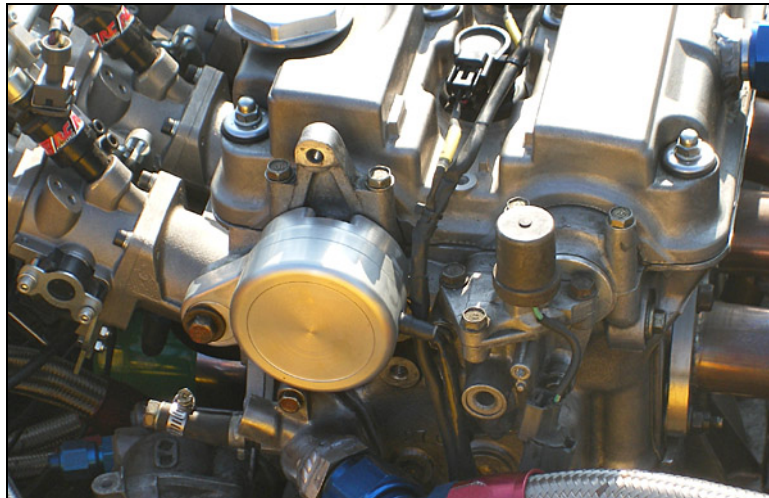

Figure 4.
- d) Lubricate the O-ring with clean motor oil and install the EPM onto the engine. Orientate The EPM as shown in figure 4 and secure with the existing Honda bolt and washer. The other two distributor mounting bolts are not required.